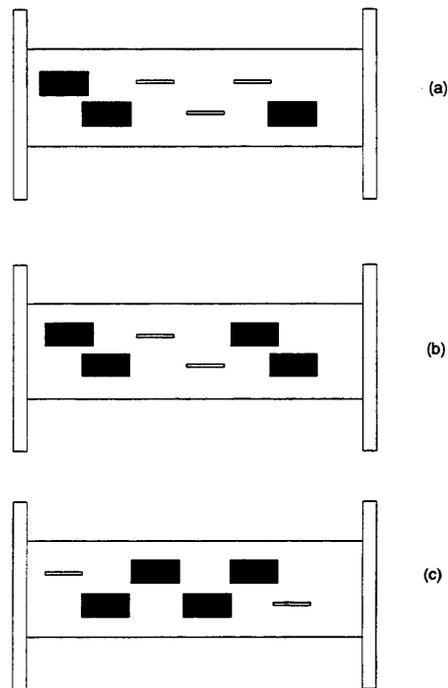

Figure 3 Sealing of slots on the waveguide.
10. Use pieces of adhesive copper tape and seal three slots as shown in Figure 3-a. Perform an acquisition and store in antenna 2 data box..
11. Repeat the acquisition after sealing a fourth slot as in Figure 3-b and store it in the H plane of antenna 3.
12. Repeat the acquisition after modifying the slot antenna to the configuration of Figure 3-c. Store in the E plane of antenna 3. Compare these patterns to the H plane pattern of antenna 1.